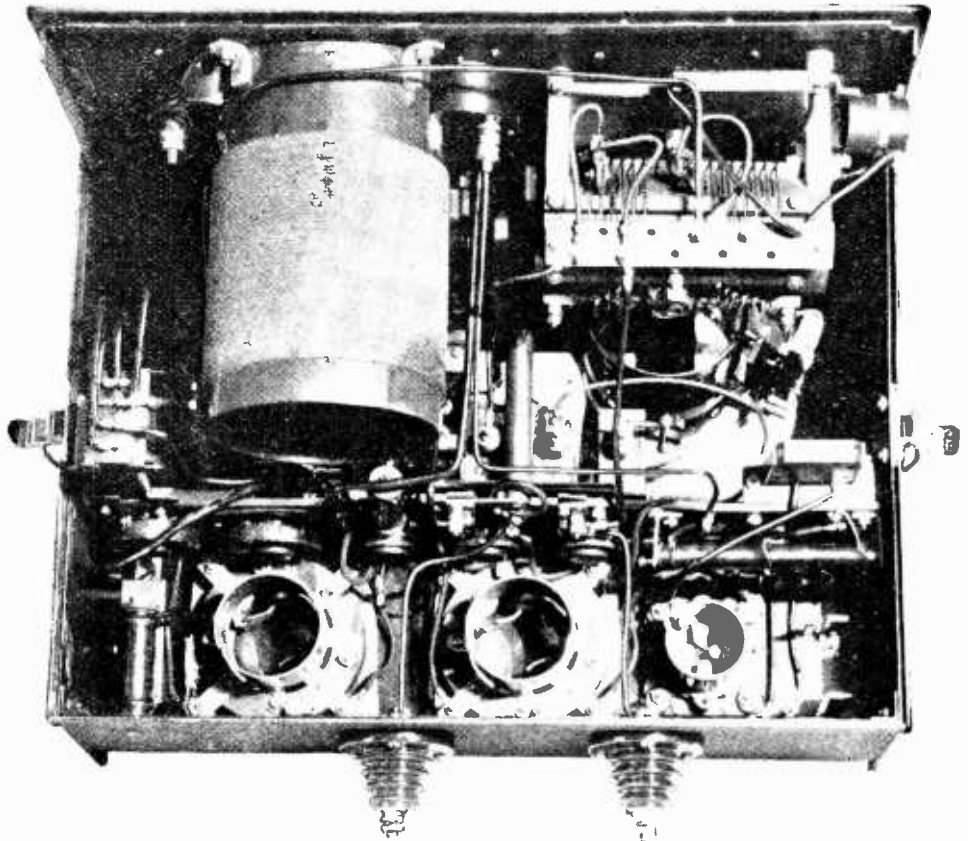

Fig. 2.—Interior of transmitter. The long-wave tuning coils are on the left and the short-wave on the right
Fig. 2.—Construction of tuning coil. A has 125 turns of No. 32 D.S.C. tapped at the 25th turn. B has 29 turns of 27/42 Litzendraht, and C, 6 turns of No. 32 of D.S.C.
The construction of the coil will be understood by referring to Fig. 2. A piece of ebonite 4in. external diameter by 6in. long, has at one end a winding of 29 turns of 27/42 Litzendraht wire. This is coil B, and the winding is commenced 1/2 in. from the end of the former. Its ends are connected to points 1 and 2, and the turns are wound touching, making the winding length 1.1in. long. If Litzendraht is not available, a fairly good coil can be made of the same number of turns of No. 20 D.S.C. wire. Coil C should be wound at the end of coil B, and comprises 6 turns of No. 32 D.S.C. copper wire wound in the same direction. Its beginning end is connected to soldering tag (3), while its finishing end goes to soldering tag (5), the connections being made
inside the tube. Coil A may now be wound, and comprises 125 turns of No. 32 D.S.C. copper wire with a tap at the 25th turn, as shown in Fig. 2. The length of coil A is 1.75in., and it will be noticed that one end is connected to tag (2), while its other end is connected to tag (5). The tap is taken to tag (4). These tags are held by small 4 B.A. screws and nuts.
The transmitter is designed to operate on 45 metres and 600 metres. Fig. 1 gives a general view of it, while Fig. 2 shows the internal arrangements. The receiver, shown in the title of this article, has a double wave range: 45 metres, and 550 to 850 metres.